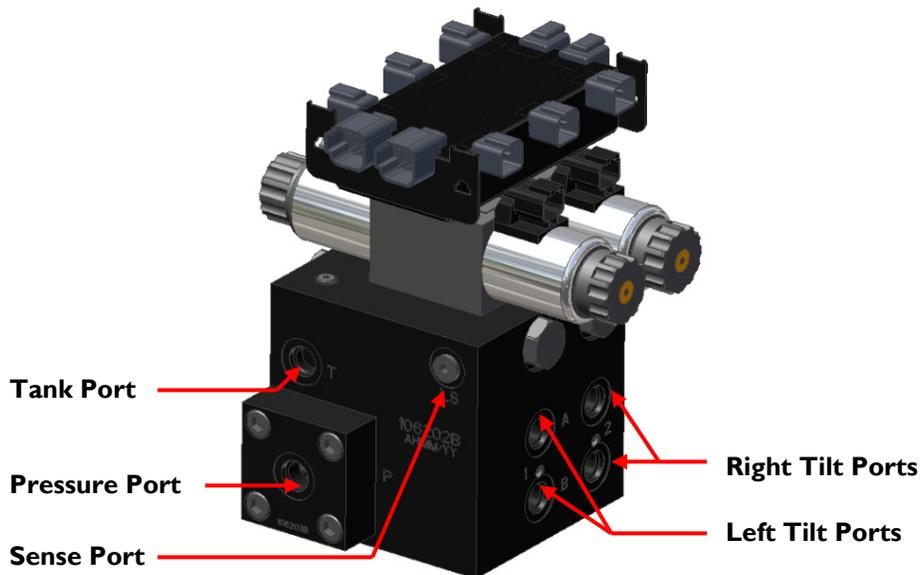

Figure 21: Valve Module - Valve Coil Connections
6. With the valve module securely mounted to the valve block, connect the valve cables (C10), to the valve coils as illustrated in **Figure 21**. Insert the 2-pin plugs (P01) into the unused 2-pin connectors on the valve module.